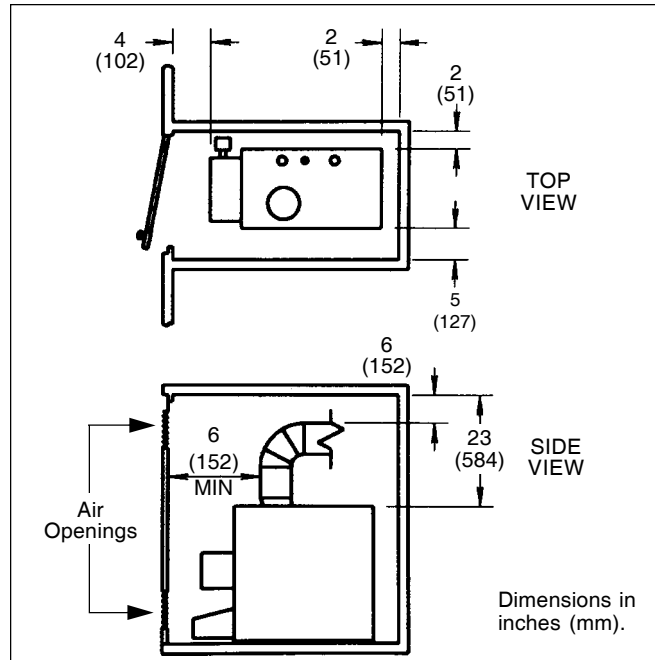

Figure 1. Closet Installation.
4. The Model JVi-50 through JVi-225 boilers can be installed in a closet as long as the minimum clearances shown in Table 4 are observed. Special attention should be paid to clearances between the front of the boiler and the closet door when it is closed (see Figure 1).